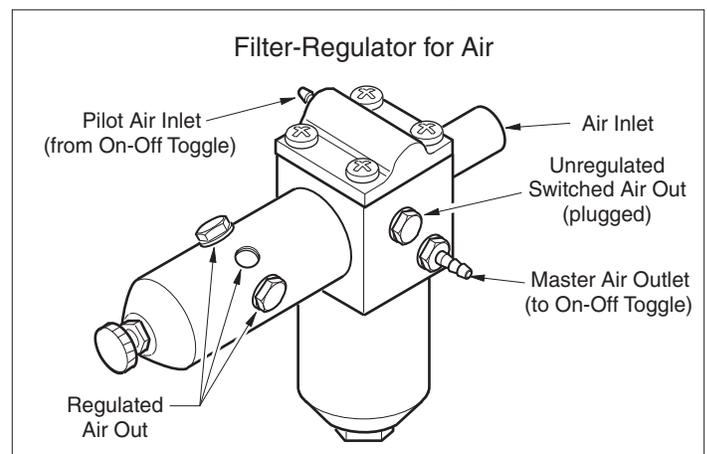

Figure 2
4. Identify the filter-regulator for air. It is the one with an outlet barb on the side of the square block (Figure 2). On the water filter-regulator, there will be a hex plug at this location.
1. Identify the plated 1/16" barb fitting on the side of the filter-regulator for air (*Figure 2*). This outlet provides air for the on-off toggle valve. On DCI units there is a transparent tube that goes to the inlet barb on the on-off toggle valve. Connect this tube to the barb on the master shut-off valve.
2. The 1/16" brass barb fitting on the plastic cap of each filter-regulator is the pilot air inlet (*Figure 2*). The inlets on the two filter-regulators are joined by a yellow tube with a T-fitting in the middle. Connect the yellow tube that comes from the outlet side of the on-off toggle valve to the center barb on the T-fitting.